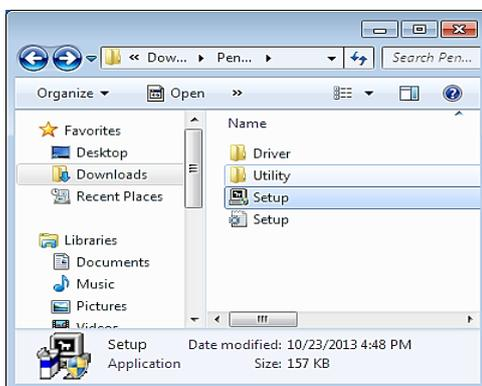

Figure. 98
Step 1: After extracting the files, run “Setup.exe” (Figure. 98).